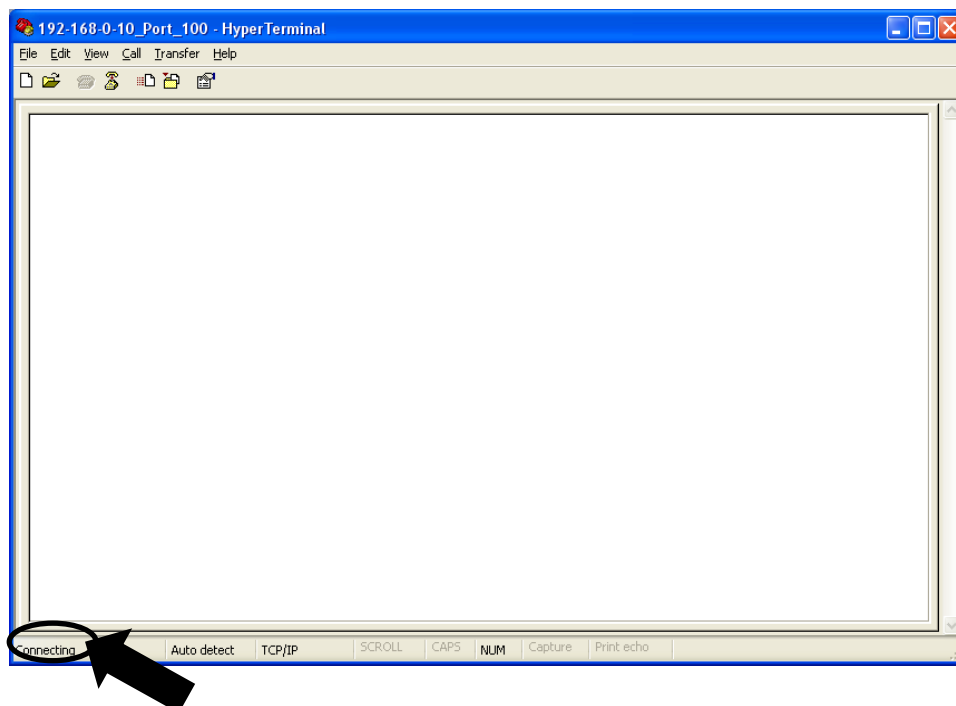

Figure 6-96: Terminal Emulator Screen Interface
3. The terminal emulator screen interface will appear while HyperTerminal connects to the card. This is shown in Figure 6-96.